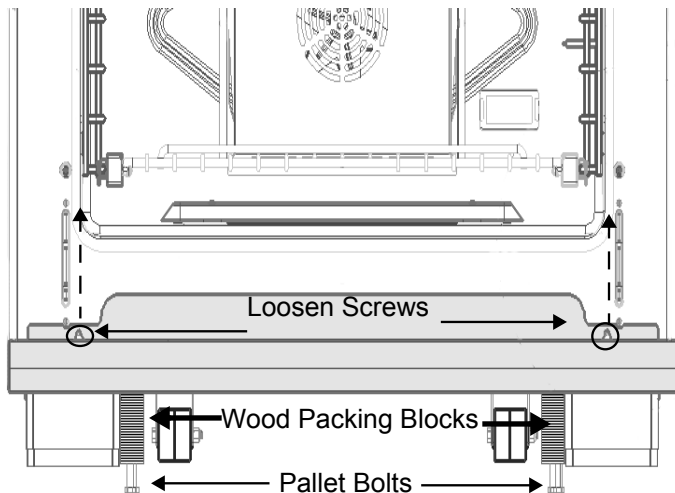

Figure 5: Door Trim, Packing Blocks, & Pallet Bolts
3. All ranges are held to the pallet by (4) bolts through a wood block center (see *Figure 5*). The two front pallet bolts are accessible only after removing the Door Trim located beneath the doors.